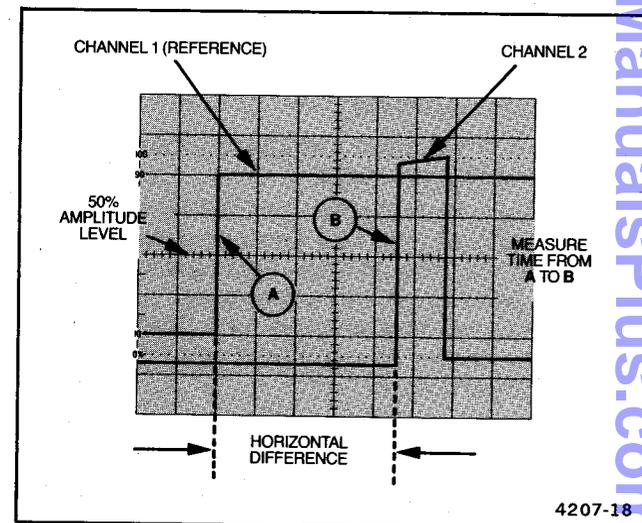

Figure 3-7. Time difference between pulses on time-related signals.
8. Set the SEC/DIV switch to a sweep speed that provides three or more divisions of horizontal separation between measurement points on the two displays. Center each of the displays vertically (see Figure 3-7).
**EXAMPLE.** In Figure 3-7, the SEC/DIV switch is set to 50  $\mu\text{s}$  per division, HORIZONTAL MODE is set to MAG, and the MAG switch is set to X10. The horizontal difference between waveform measurement points is 4.5 divisions.